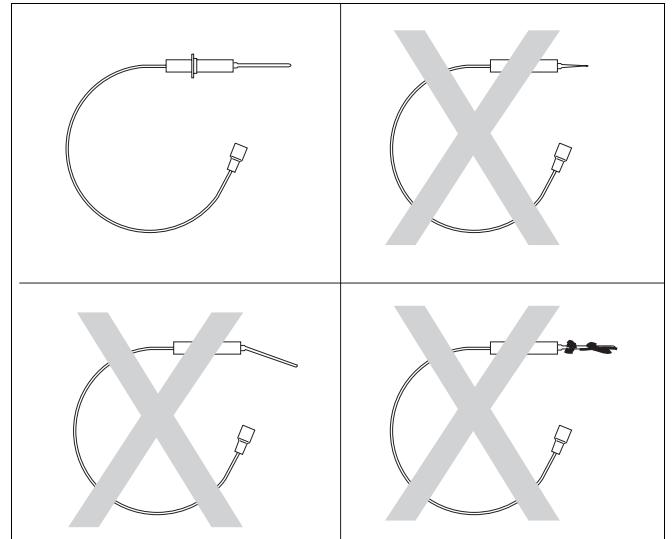

fig. 100 Check ionisation electrode
- Check if the ionisation electrode has been damaged, soiled or is shows signs of wear (→ fig. 100).